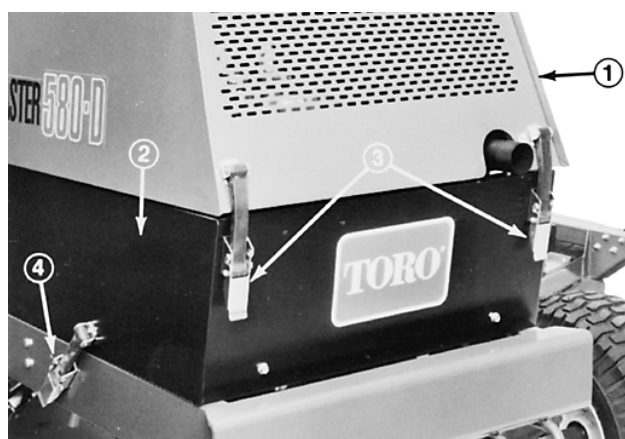

Figure 32
Unlatch and remove the left side panel (Fig. 32).
1. Unlatch and raise the hood and prop it open (Fig. 32). Make sure the hood prop is secured in one of the mounting brackets on the hood. Unlatch and remove both side panels (Fig. 32).